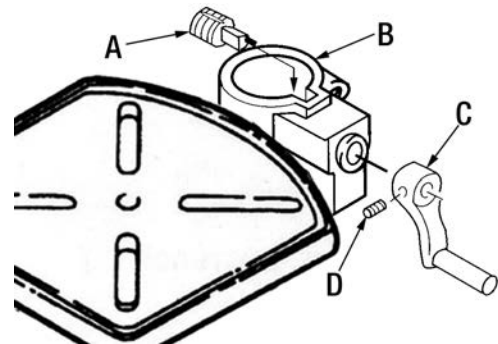

FIGURE 8
6. Find the elevation worm gear shaft (A) Fig.8 in the loose parts bag. Insert the elevation shaft into the table support (B) and extend the shaft through the opening as far as possible. The crank handle (C) is to be installed on the elevation shaft, the set screw (D) is to be aligned with the flat portion of the shaft. The crank is to be positioned as close to the arm support as possible, then tighten the set screw.